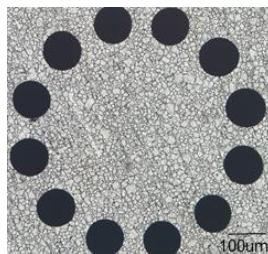

Figure Q3. Drilled hole arrangement
3. A facility produces the casings for mobile phones. The earpiece on a particular model of phone requires 12 micro holes of 90 μm diameter to be drilled in a piece of 0.75 mm thick aluminium as shown in Figure Q3. The separation of the holes is 40 μm . The required rate of production is 2,000 parts per hour.